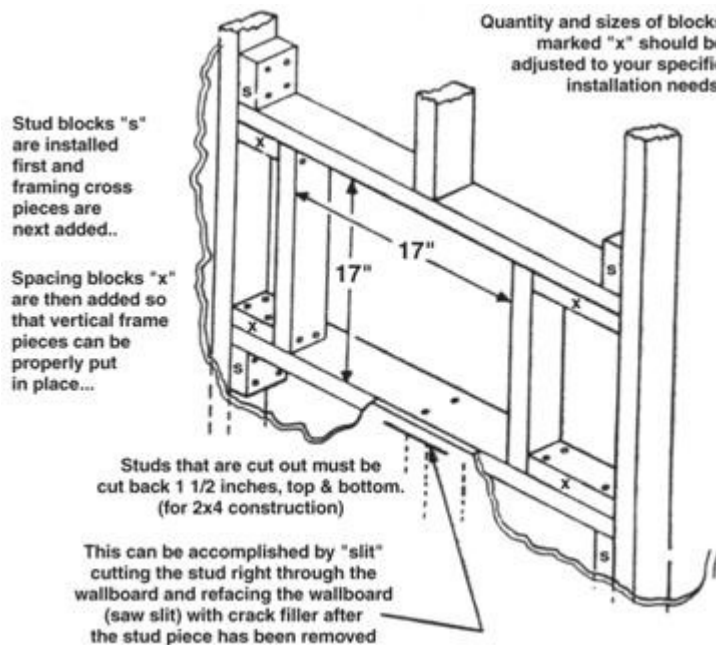

Figure 2: Framing and Header Suggestions
2. Saw along the marked lines to remove the 17" square piece of wall material. **CAUTION:** Make sure there are no electrical wires within the wall. The 17" square opening created must be kept completely free of combustibles. This means that if a wall stud or any other combustible material is encountered within the opening, it must be removed. If a wall stud is thus removed, it is recommended that in addition to cutting a section of wall stud out, appropriate framing or headers (as required) be installed. (See Figure 2)